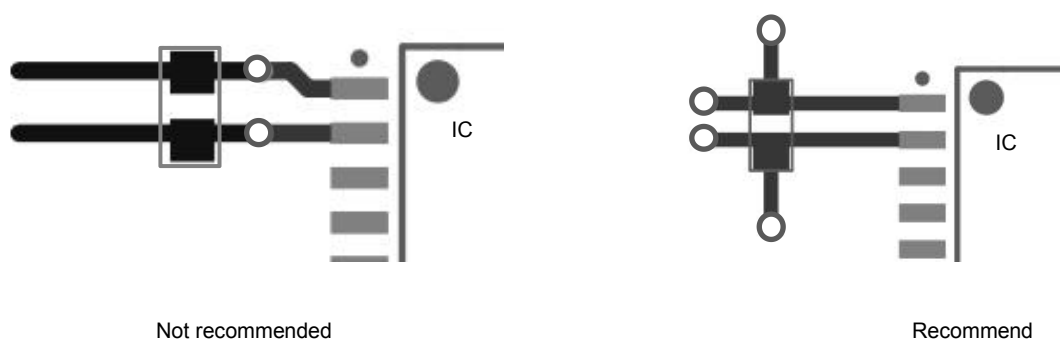

Figure 14-2
3. When it is necessary to place vias in the power supply line and the ground wire, the position of the vias should be placed on the outside of the capacitor relative to the chip pins, rather than between the capacitor and the chip, as shown in the figure 14-2 below to reduce the number of vias effect of parasitic inductance.